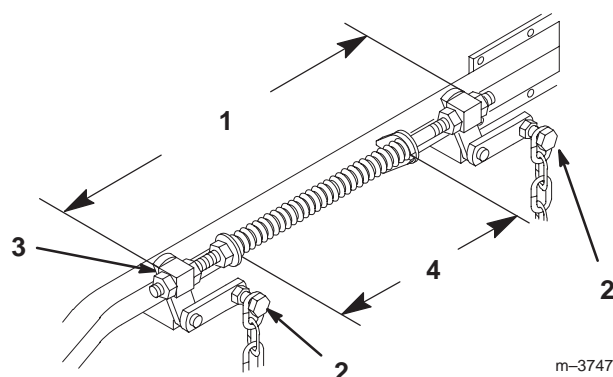

Figure 63
4. Raise the deck to the transport position and take all force off of the two large deck lift springs by loosening nut in front of each spring (Fig. 63).
6. Loosen four (4) top chain bolts in slots. Check the length of the rod/swivel assemblies. The distance from outside of rear swivel to outside of front swivel should be 19-17/32 in. (496 mm) (Fig. 63). Make sure that all four swivels move freely in holes.
2. Springs are compressed so the distance between the two large washers should be 10-1/4 in. (260 mm) (Fig. 63).
3. Adjust by turning nut in front of each spring (Fig. 63). Clockwise will shorten spring; counterclockwise will lengthen spring.